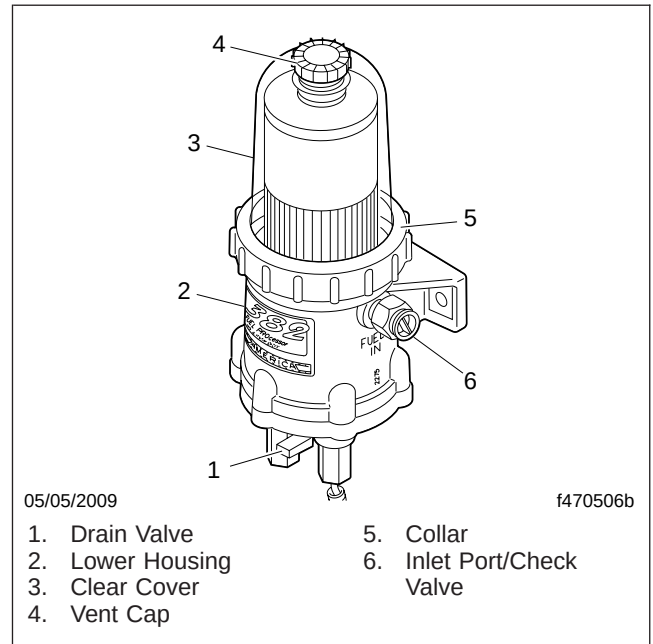

Fig. 1, DAVCO Fuel/Water Separator (Fuel Pro 382 Shown)
3. Remove the vent cap (**Fig. 1**, Item 4) and open the drain valve (**Fig. 1**, Item 1) to drain the fuel completely, then close the drain valve.